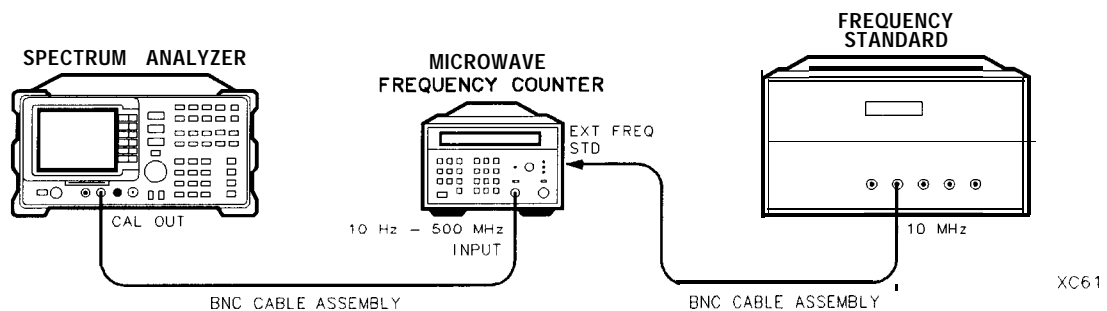

Figure I-1. 10 MHz Reference Test Setup
1. Connect the equipment as shown in Figure I-1.